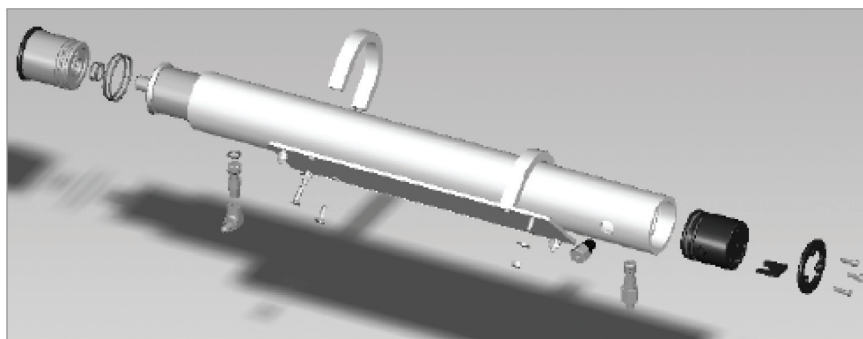

Figure 8c: R.O. Membrane illustration of brine seals
- r) A new Sea Recovery R.O. membrane element comes complete with a "U" cup Brine Seal #8 at one end of the Element. This Brine Seal must be positioned at the INLET end of the Pressure Vessel. Refer to Figure 8c-8d, pg 8-13. Install a new R.O. membrane element with attached "U" cup Brine Seal into the Pressure Vessel. Place the end of the R.O. membrane element that DOES NOT have the Brine Seal attached into the INLET end of the Pressure Vessel and slide it into the Pressure Vessel. Insert the down stream end (end without a brine seal) of the RO membrane element into the upstream inlet end of the High Pressure Vessel.